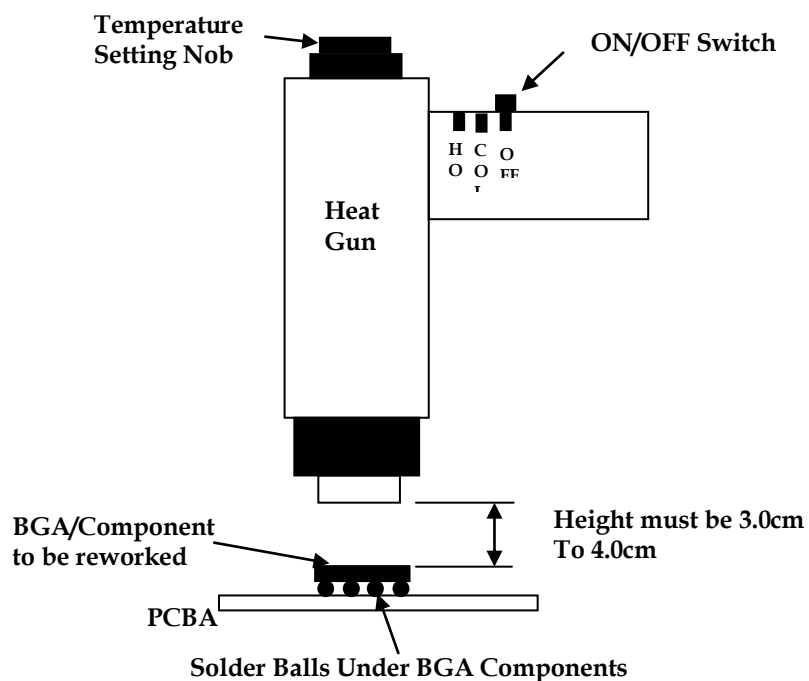

Figure 1
- Height of Heat Gun to component must be 3.0cm to 4.0cm as shown in Figure 1